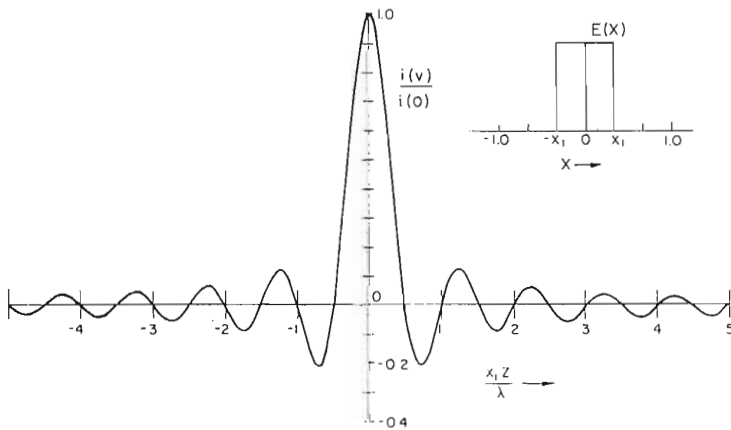

FIG. 3. Current distribution which will give a constant field intensity over a prescribed angular sector.
and  $E(x)$  is zero for all other values of  $x$ , as shown in the upper right corner of Fig. 3. Since  $E(x)$  is an even function, equation (9) is appropriate to the problem and it becomes:
The relationship of equation (13) is shown in Fig. 3. It may be noted that as  $x_1$  becomes small, the current distribution spreads out along the array and a larger antenna is required.
Because of the inter-relationships of Fourier Transforms, we could expect that a field intensity distribution of the shape of the current distribution shown in Fig. 3 would yield a new current distribution which was constant over an aperture and then became zero. For instance, if we desired a field intensity distribution where: